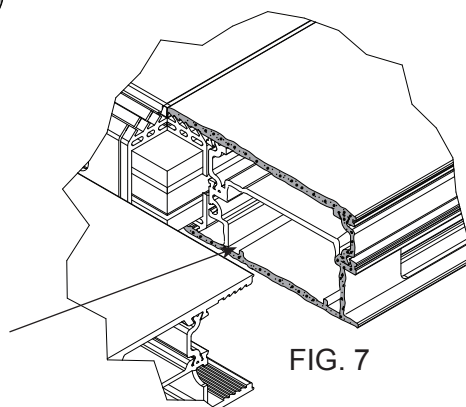

FIG. 7
5. Apply Cat. No. RTV408 sealant to the ends of the bottom rail. (FIG. 7)